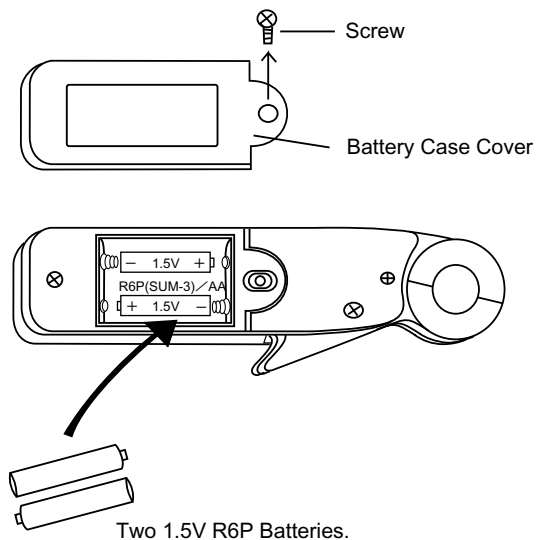

fig. 10
6. Replace Battery Case Cover and screw. Refer to the figure 10.